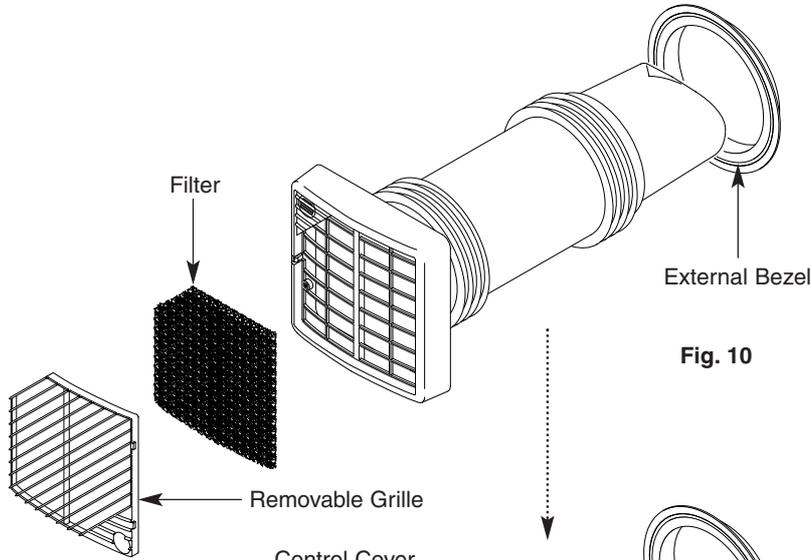

Fig. 10
2. Unclip the removable grille from the unit and remove filter (Fig. 10).